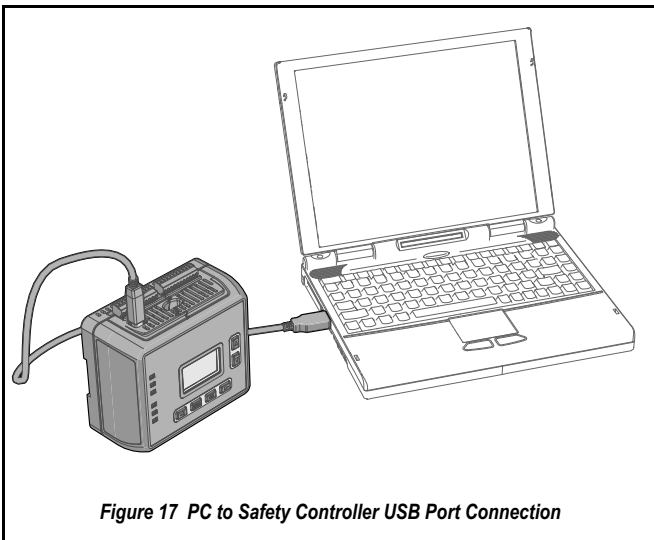
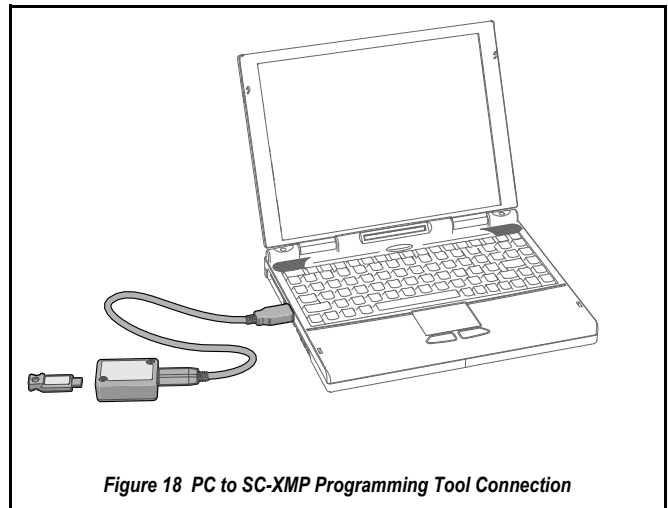

Figure 17 PC to Safety Controller USB Port Connection
Figure 18 PC to SC-XMP Programming Tool Connection
The *Safety Controller* is connected to a PC by way of a USB A/B cable (figure 17 on page 24). The cable is also used to connect the PC to the *SC-XMP Programming Tool* (figure 18 on page 24 refers) in order to download a configuration to the *XM Card*.
- 1) Referring to figure 17 on page 24, connect USB A/B cable to *Safety Controller* and PC with *PCI* configured software loaded.
The *SC-XMP Programming Tool* is a handy device that can be used to transfer a configuration from a PC (running the *PCI* software) to an *XM Card* or from an *XM Card* to the PC, without requiring an *SC22-3 Safety Controller*. It connects to the PC via the USB A/B cable and the PC's USB port (see figure 18 on page 24).
- 1) Referring to figure 18 on page 24, connect *SC-XMP Programming Tool*.
The model *SC-XM1 External Memory XM Stick* is a removable memory module that can store or be used to transfer a single configuration. The *XM Card* has a write-on label on its reverse side where a *Configuration Name* or a machine identification can be noted. The *XM Card SC22-3 Safety Controller* is shown connected to the figure 18 on page 24.